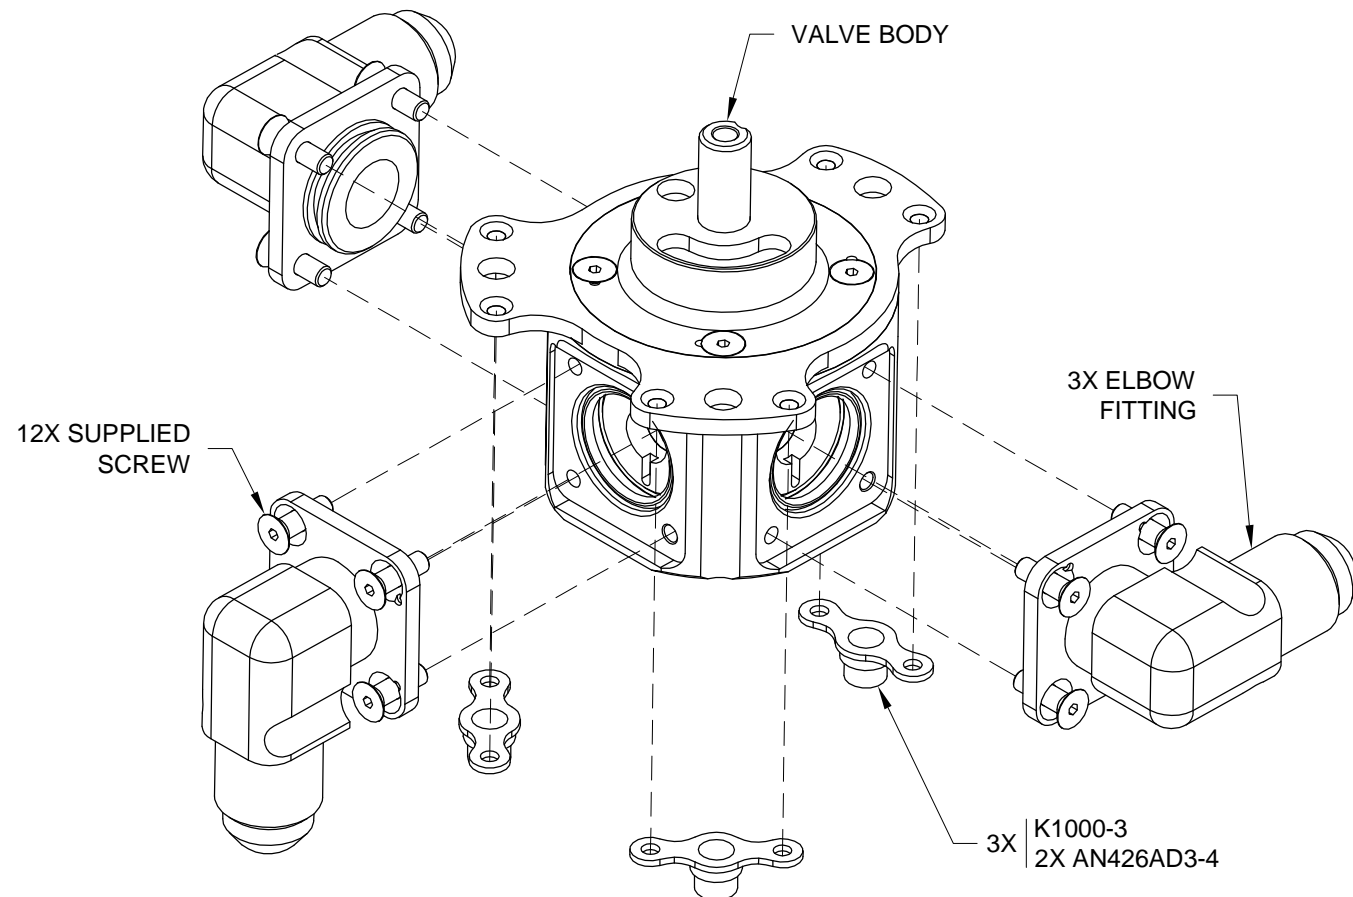

FIGURE 1: FUEL SELECTOR VALVE
Step 1: Trim the black wire coming from the ES-PX375-TC Fuel Pump as indicated in Figure 1.